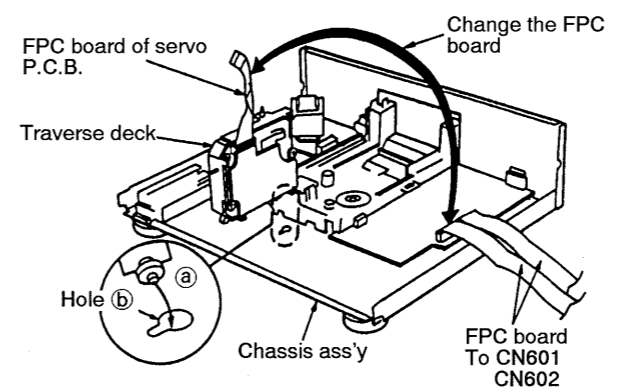

Fig. 4
Replace the FPC board for the servo P.C.B. (between CN102 and CN301) with the FPC board on the main P.C.B. (between CN401 and CN601 or between CN402 and CN602). (Reference the arrows in Fig. 4.)
2. Insert part (a) of the traverse deck into hole (b) of the chassis ass'y as shown in Fig. 4.